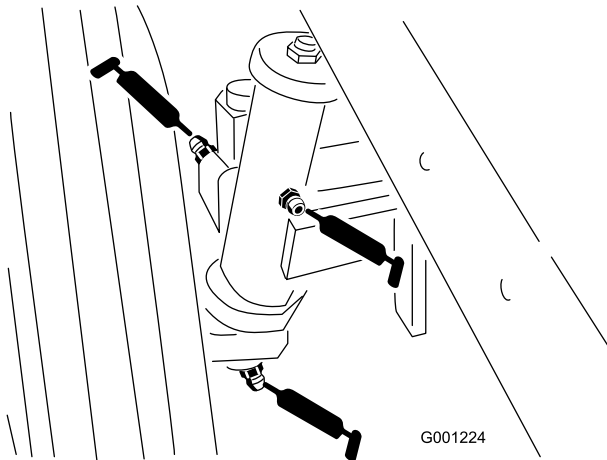

Figure 35
- Rear wheel spindle bushings (Figure 35)